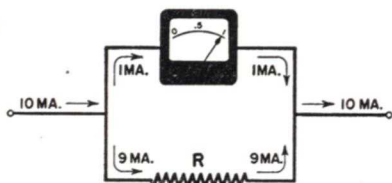

FIG. 7. The current flow divides between the meter and shunt.
**How Shunts Are Used and Calculated.** Suppose we have a 1-ma. meter and want to measure 10 ma. We can do so by putting a resistor across the meter terminals of such a value that 9/10 of the current coming into the resistor-meter combination will flow through the resistor and only 1/10 through the meter. In other words, we use the resistor to "by-pass" 9/10 of the current. Fig. 7 shows how this is done. When we read the meter, we simply remember that there is 10 times as much current flowing as the meter shows—so we multiply the meter reading by 10. If our meter reads 0.5 ma., we know the real current is 5 ma. ( $0.5 \times 10 = 5$ ); if it reads 1 ma., the actual current is 10 ma. ( $1 \times 10 = 10$ ). Of course, if the meter is to be connected permanently to read 10 ma. we will mark the scale 0-10 ma., so that the total current can be read directly.